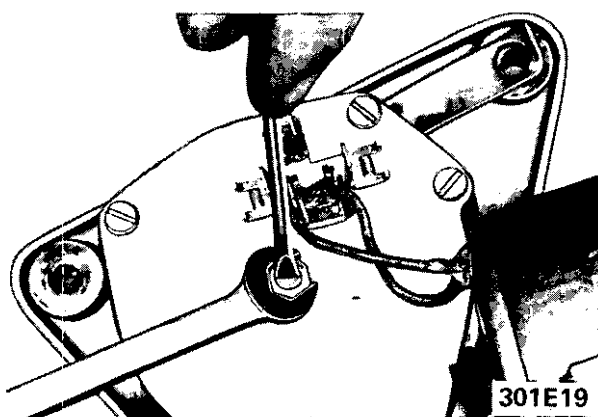

Figure 1E-19 Adjusting Driven Gear End Play
4. Check the position of the windshield wiper blades for proper position after the crank arm is attached. See Figure 1E-3 for the proper distance the blades should be from the windshield molding in the park position.